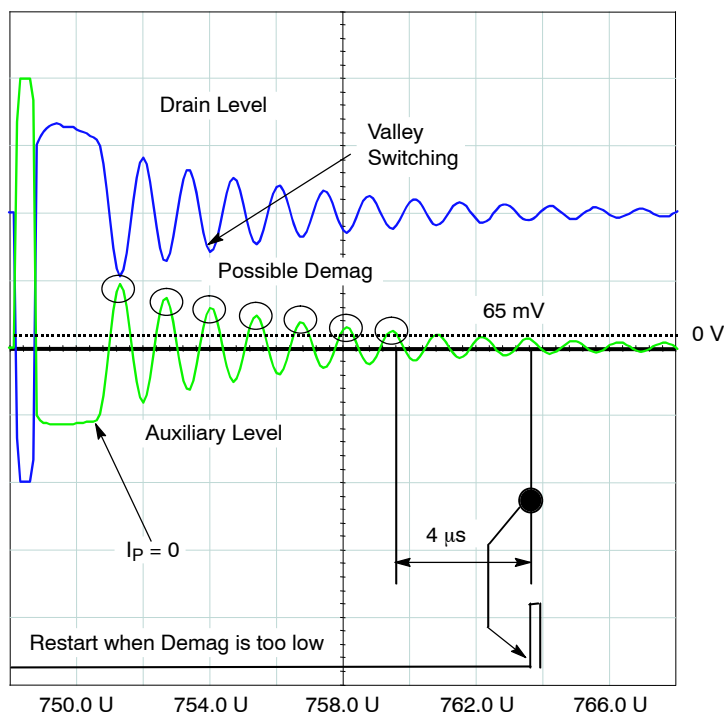

Figure 13. Core Reset Detection is done through an Auxiliary Winding Operated in Forward
As previously said, the operating frequency at nominal load is dictated by the external elements. We can split the different switching sections in two separated instants. In the following text we use the internal error voltage, V_{err} . This level is elaborated in Figure 13. V_{err} is linked to V_{FB} (pin 4) by the following formula:
The auxiliary winding for demagnetization needs to be wired in Forward mode. However, the application note describes an alternative solution showing how to wire the winding in Flyback as well. As Figure 13 depicts, when the MOSFET closes, the auxiliary winding delivers ($N_{aux}/N_p \cdot V_{in}$). At the switch opening, we couple the auxiliary winding to the main output power winding and thus deliver: ($-N_{aux}/N_s \cdot V_{out}$). When DCM occurs, the ringing also takes place on the auxiliary winding. As soon as the level crosses-up the internal reference level (65 mV), a signal is internally sent to restart the MOSFET. Three different conditions can occur:
3. As can be seen from Figure 13, the parasitic oscillations on the drain are subject to a natural damping, mainly imputed to ohmic losses. At a